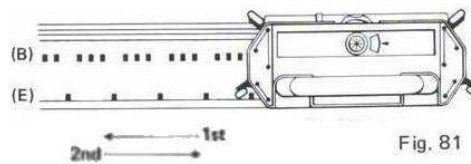

Fig. 81
- (b) With carriage on right, thread M.C. through the carriage feeder. Using 3 x 1 selector plate bring forward into position (E) from position (B) every 4th needle starting with 4th needle from right end. (Fig. 81)